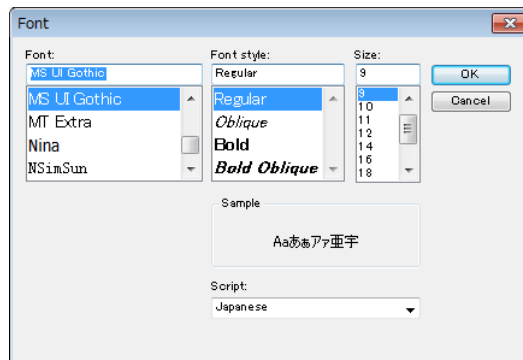

Fig. 8.2.5 Font setting window
- Font:** Displays Font setting window. (Fig. 8.2.5)